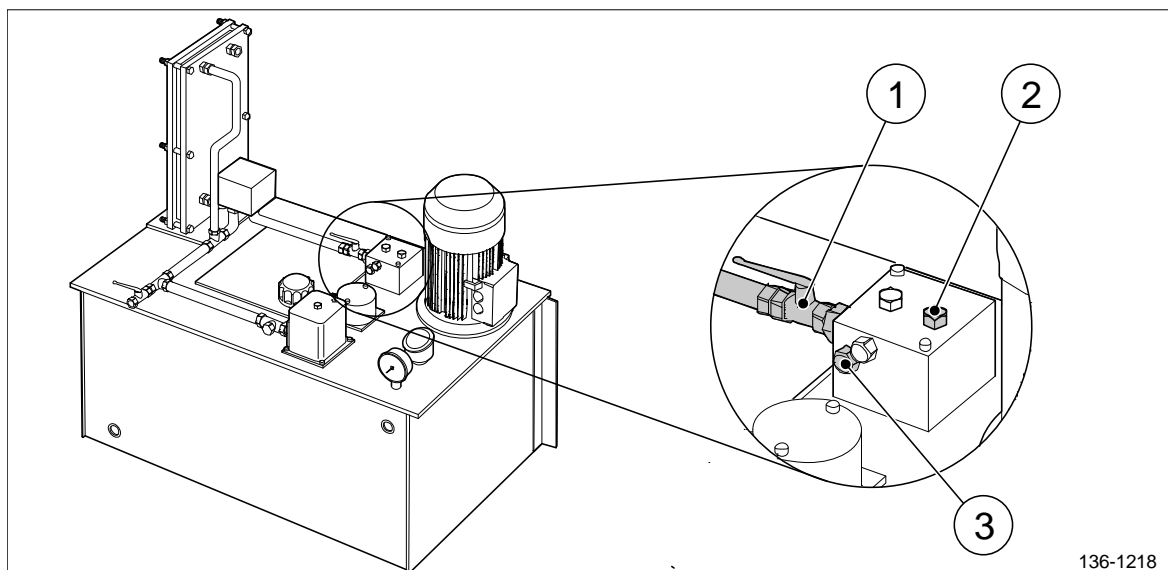

Figure 2 Front of the hydraulic power pack tank.
1. Close shut-off valve V18 (pos 1, figure 2).